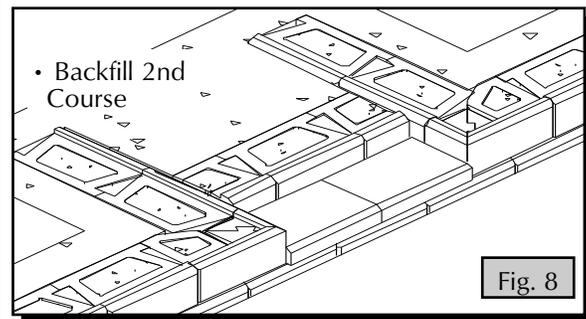

Fig. 8
- Carefully fill block cores and 6-12 in. (15-30 cm) behind the wall with backfill materials and compact (Fig. 8).